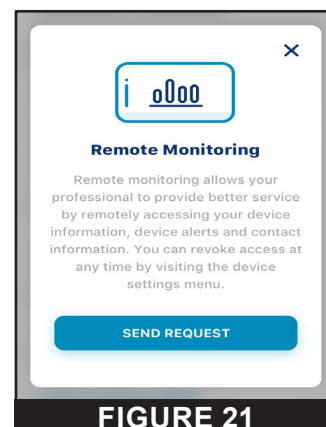

FIGURE 21
7. An explanation of remote monitoring will display. To proceed with the request, press SEND REQUEST. See **Figure 21**.